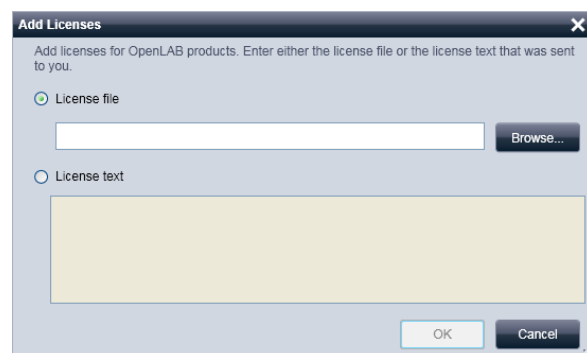

Figure 4 Entering the failover license for the local license service in the **Add Licenses** dialog
- 6 In the **Add Licenses** dialog browse to the location of the license file and add it (see Figure 4 on page 10).